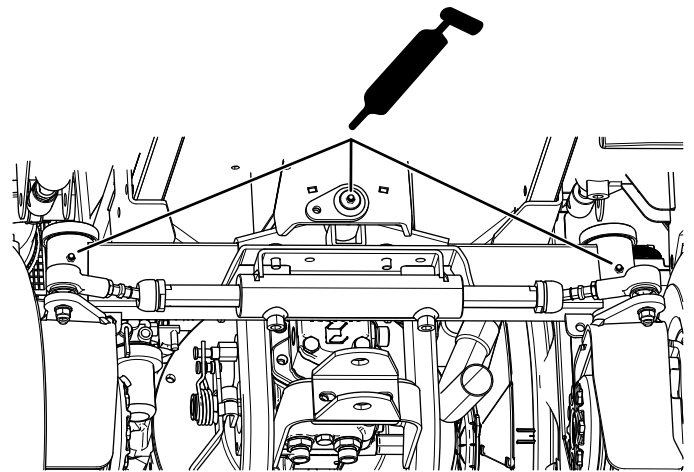

Figure 51
- Steering pivot points (Figure 51)